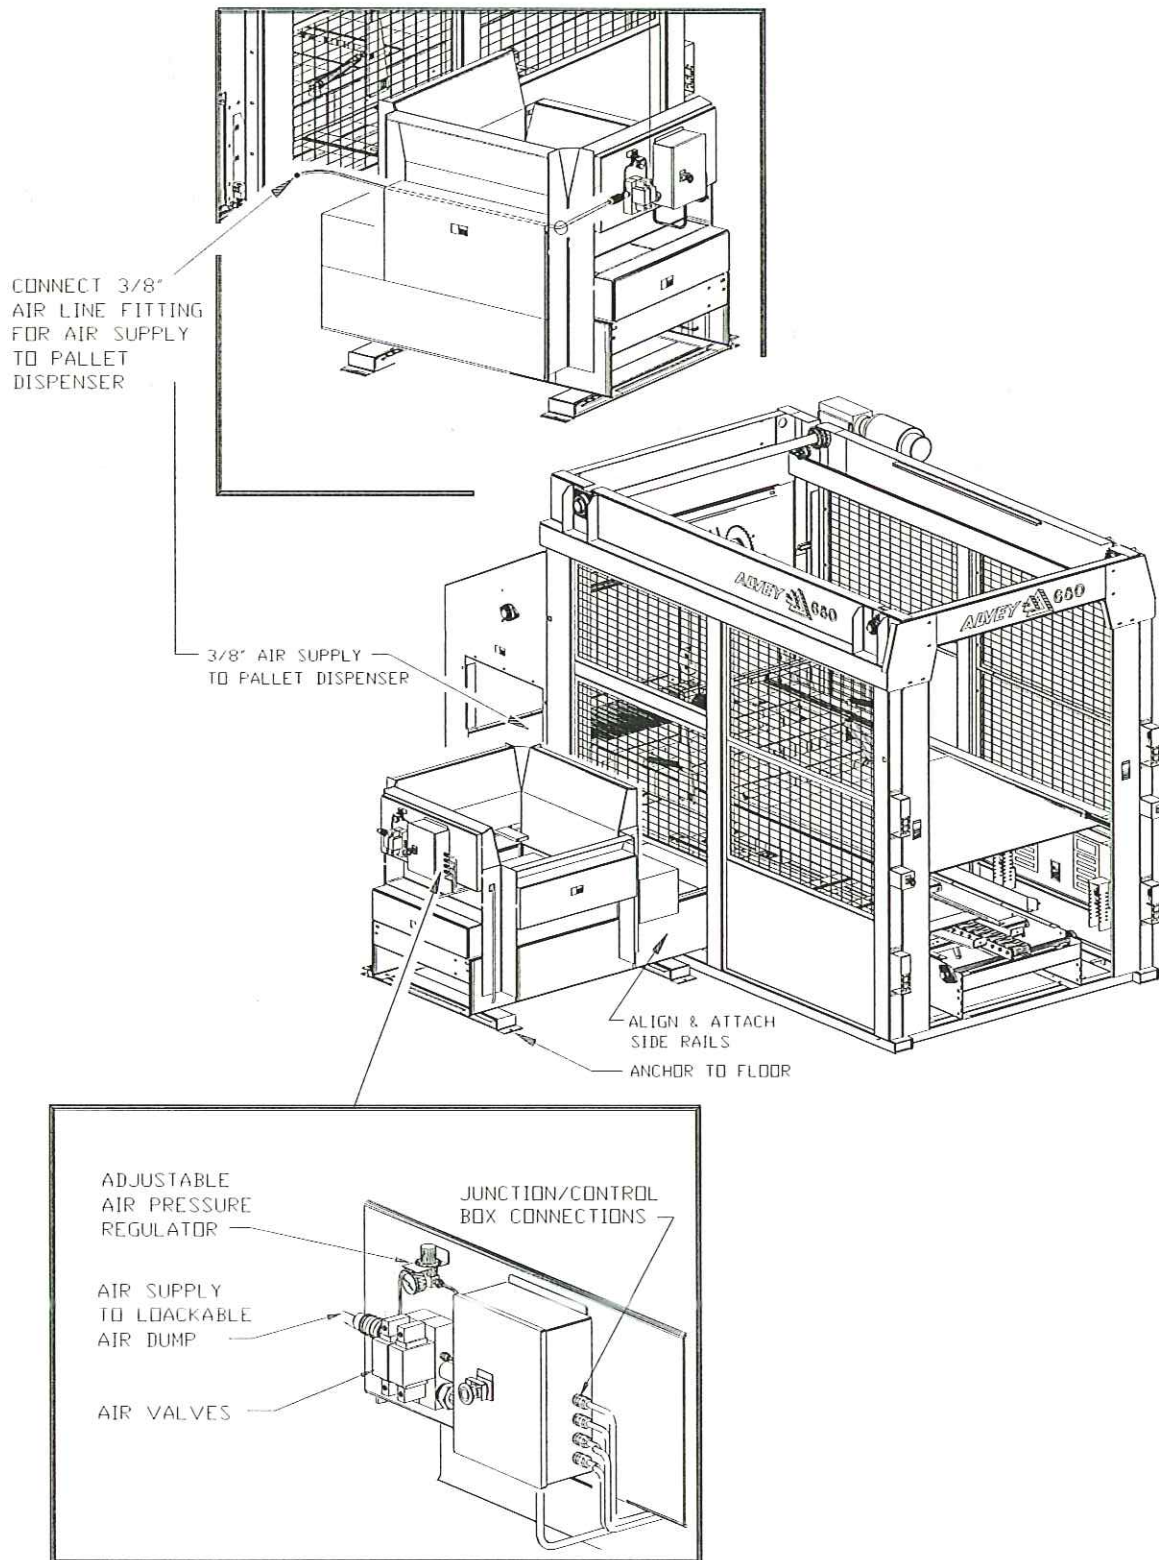

Figure 6-4: Pallet Dispenser Alignment & Leveling
4. Connect the air supply line from the machine to the 3/8" O.D. tube that runs from a tee near the main regulator to the manual shut off valve at the pallet dispenser. (Refer to Figure 6-4.)
Connect the pallet dispenser air supply line brass fitting to the palletizer fitting located at the rear corner of the pallet dispenser as shown in Figure 6-4.